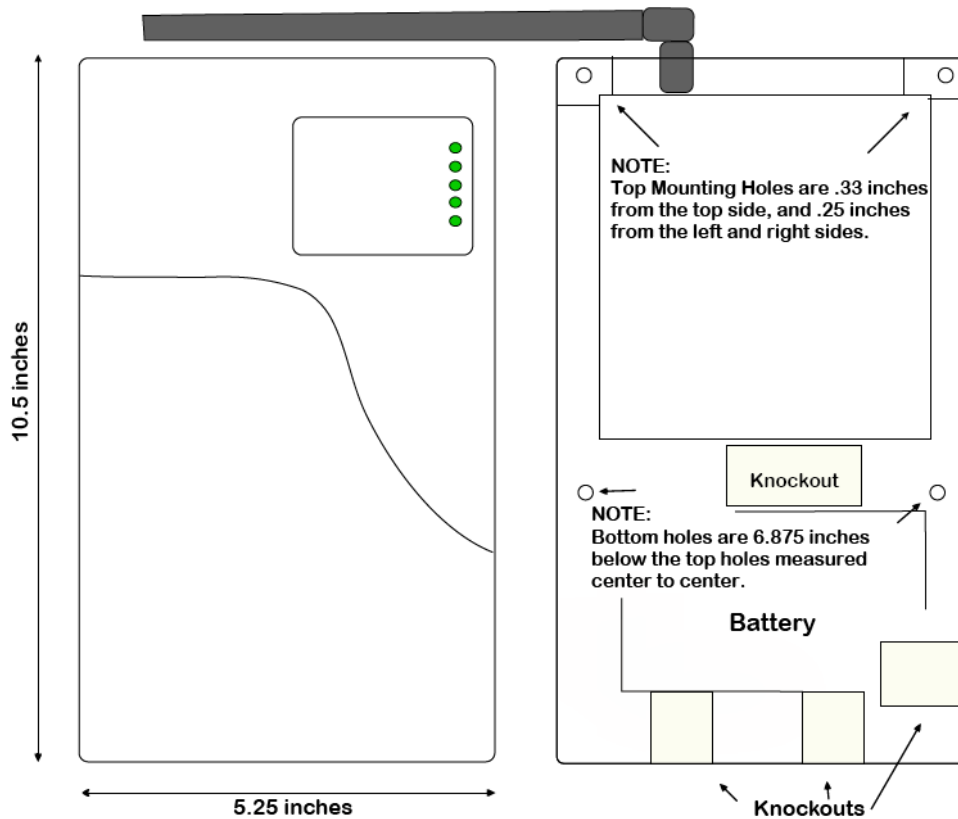

Figure 2: Inside & Outside Mounting Dimensions for the 2530
Position the bottom of the 2530 enclosure where it will be installed. Use four (4) #6 screws and mount the unit using the four holes in the enclosure's plastic bottom. The 2530's dimensions are shown in Figure 2.